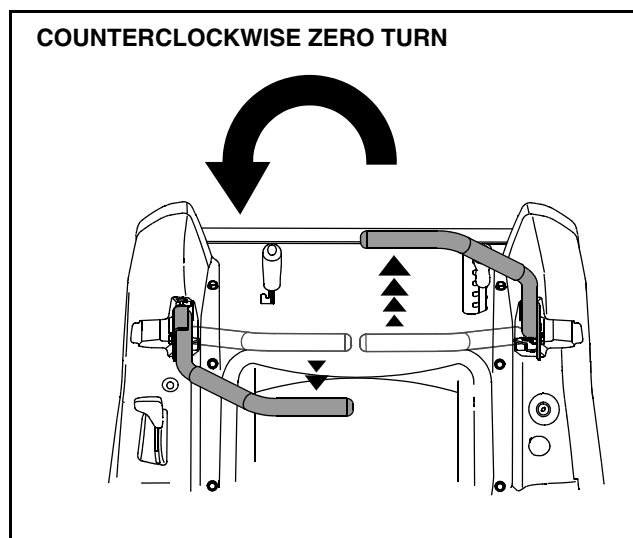

Figure 17
- To turn counterclockwise, slowly move the right control lever forward while simultaneously moving the left control lever rearward. See Figure 17.